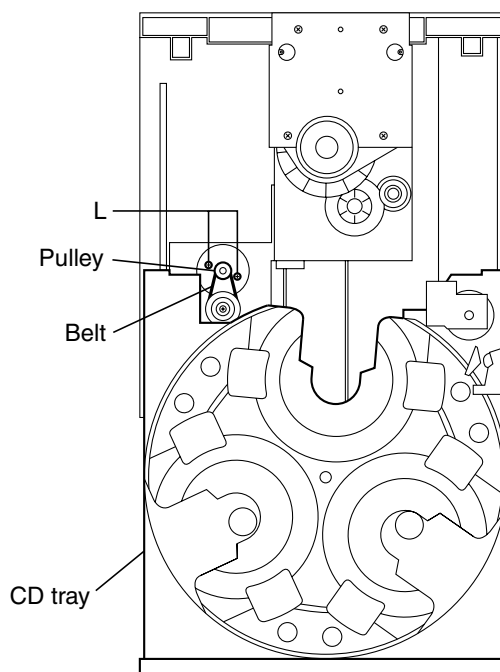

Fig.19
**■ Replacing the loading motor and belt of the CD changer tray (See Fig.19)**